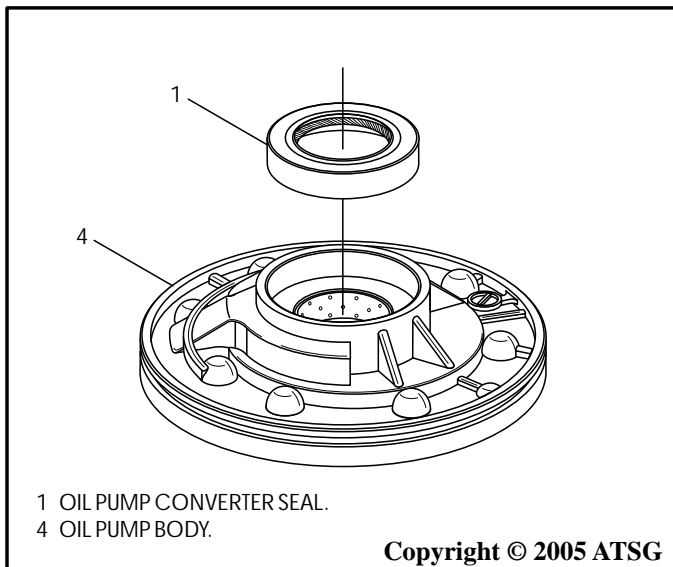

Figure 132
6. Turn oil pump over and install new converter seal, as shown in Figure 132, using the proper seal installer.